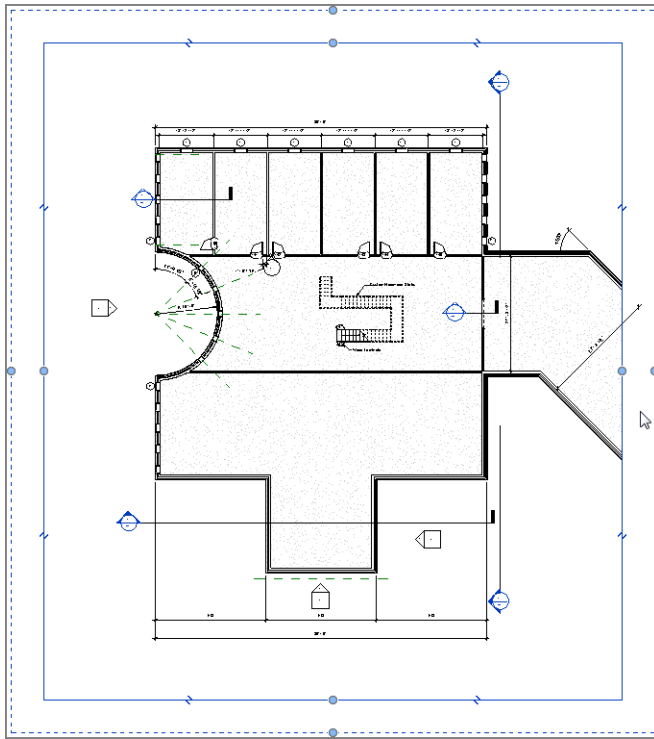

FIGURE 13.7: Selecting the plan's crop region. Notice the additional region on a dashed line type—this is the annotation crop region.
2. Select the crop region, as shown in Figure 13.7. Notice the two perimeters: one is a solid-line type, and the other is a dashed-line type.